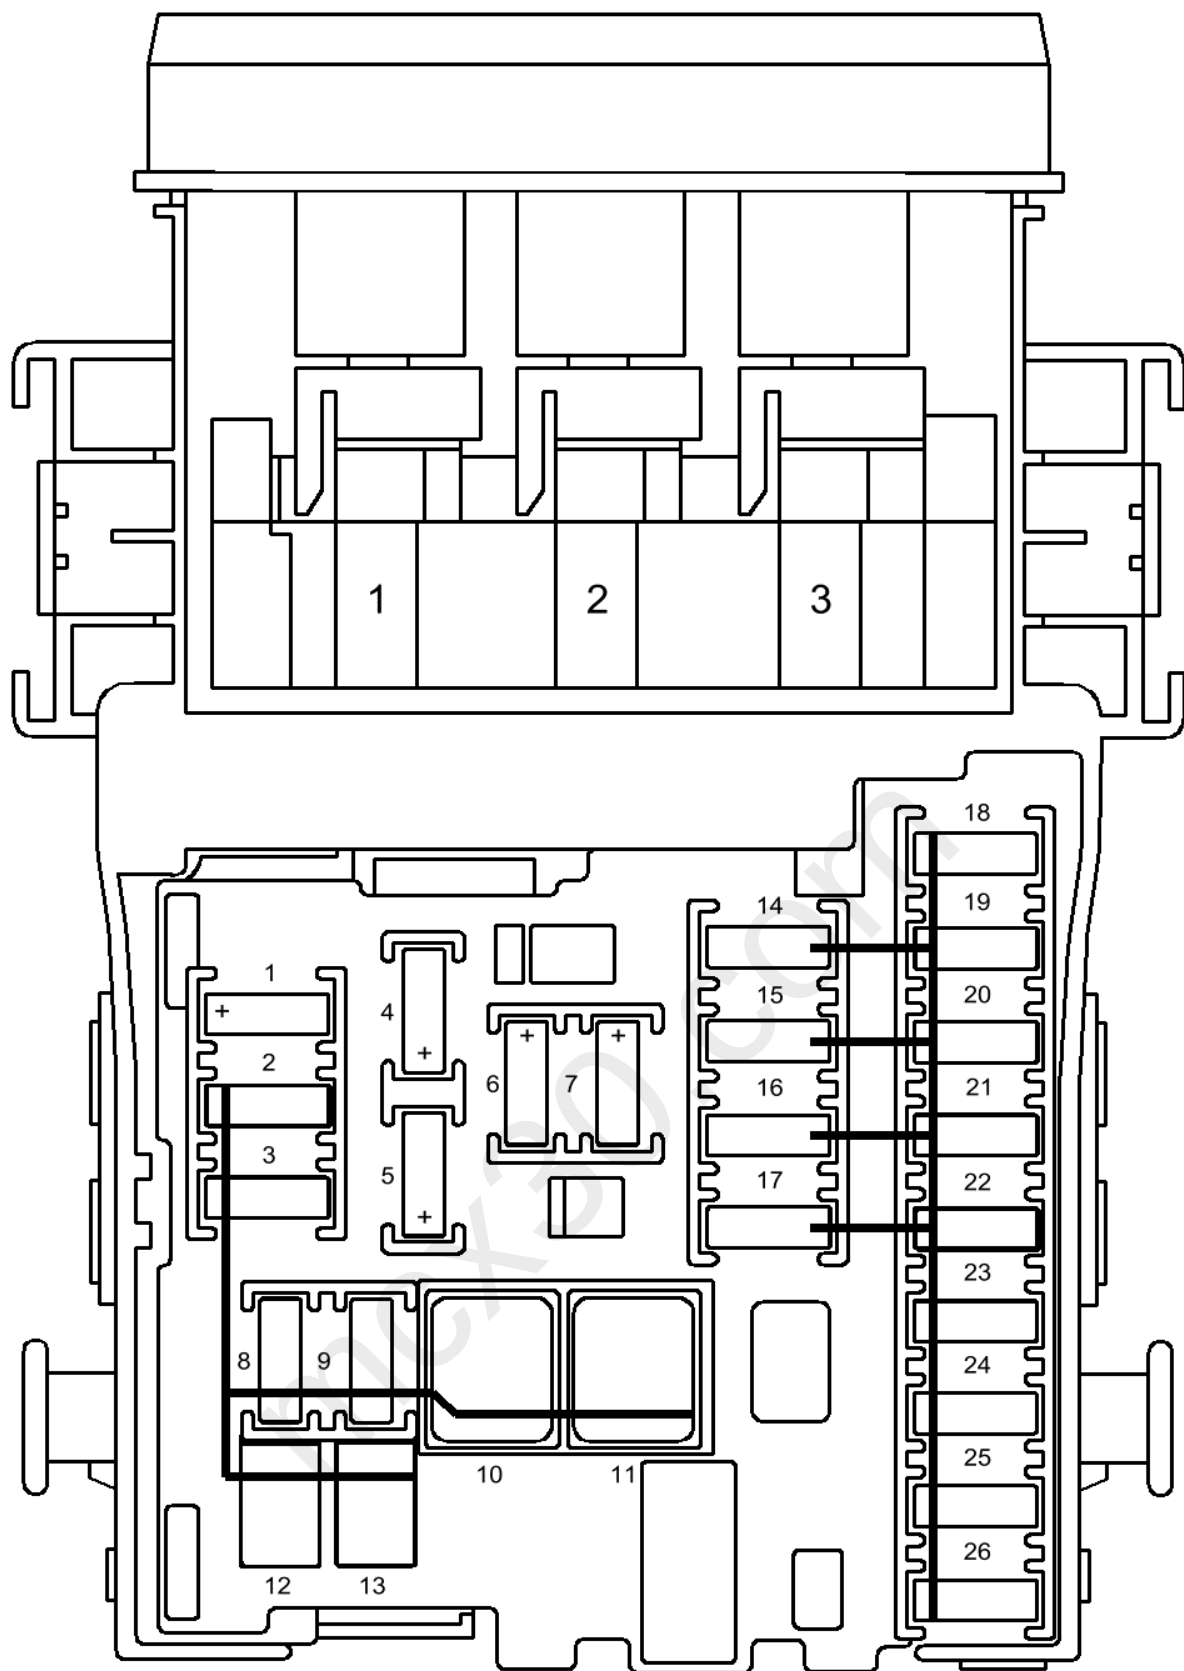

Fig. 5: Instrument Panel Fuses (Cruze)
- **2011-16 Cruze :** Fuse #21 (F21DA) Under Dash (Fig. 5)